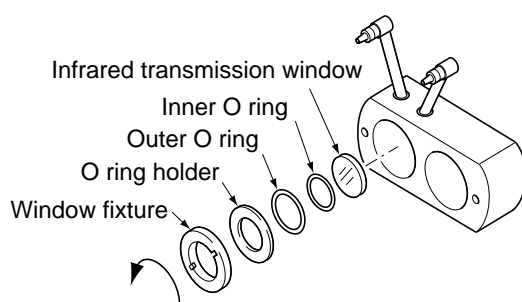

Fig. 5-3
- ④ Using the furnished cell mounting tool, turn the window fixture to the left and remove it from the cell. (See the structure of sample cell (block cell) in Figs. 5-3 and 5-4.)